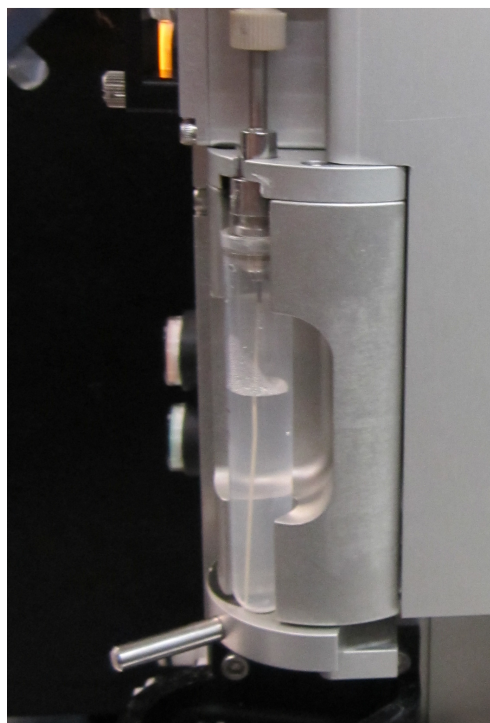

Figure 9. The sample line loaded with a sample.
- 5.7.6 Obtain the tube of Ultra Sphero Rainbow beads from the refrigerator (labelled SPHERO), vortex briefly and load onto the sample line found on the bottom front right of the cytometer (Figure 9). Please note, all samples must be contained in a 5ml polypropylene tube.